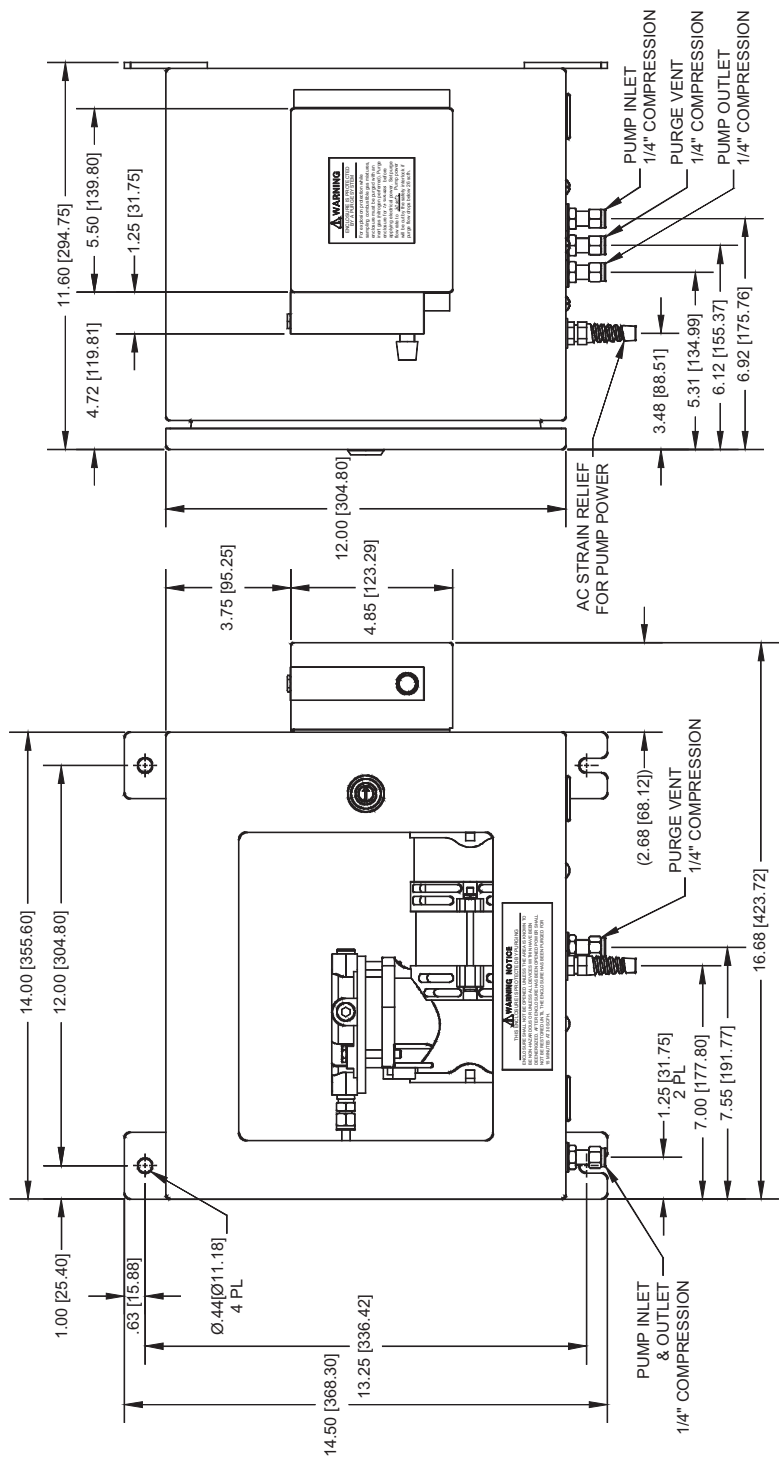

Figure 99: Pump Purge Option
- If equipped with this option, **an enclosure** equipped with a nitrogen case purge is provided for the vacuum pump to maintain a safe condition. In addition, an interlock is provided to detect and react to loss of Nitrogen purge flow. See Figure 99 on page 108.
- The pump enclosure must be mounted to a nearby wall or inside the rack shared by the analyzer. See Figure 99 on page 108.